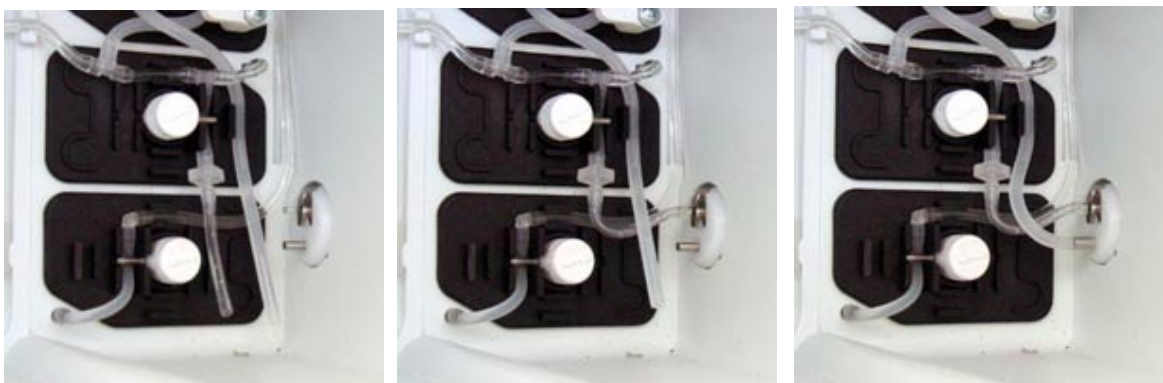

Fig. 14
- Connect both tube ends in the bottle compartment to the docking part according to Fig. 14.